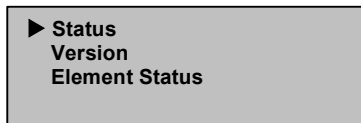

Figure 57: Select Status
5. On the SuperLoader Info submenu, scroll to Version. (See Figure 57.)
5. On the SuperLoader Info submenu, scroll to Element Status. (See Figure 57.)
5. On the Drive Info submenu, scroll to Status. (See Figure 57.)
5. On the Drive Info submenu, scroll to Version. (See Figure 57.)